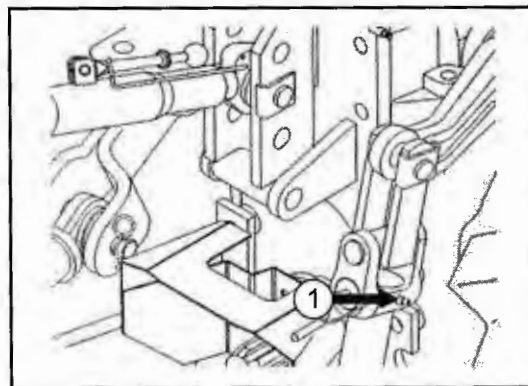

Fig. 36-3 - Lift Linkage
Using a grease gun, apply all purpose grease in the lubricating nipple (1). (See Fig. 36-3).